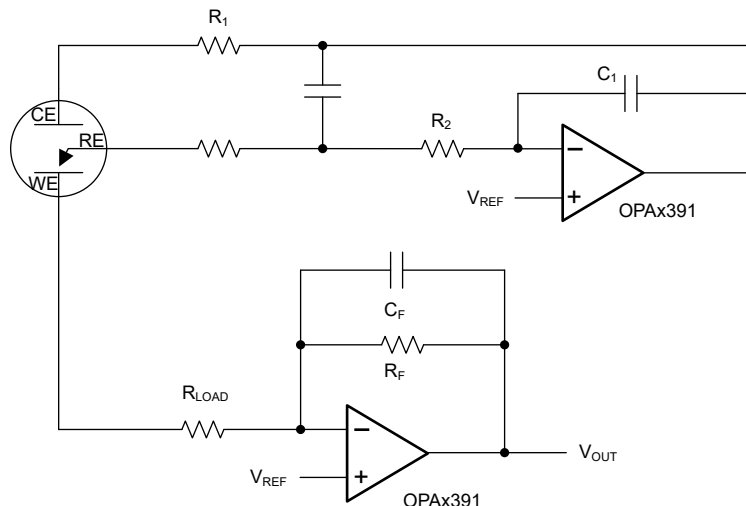

Figure 7-1. Three-Terminal CO Gas Sensor
Figure 7-1 shows a simple micropower potentiostat circuit for use with three-terminal unbiased CO sensors. This same design is applicable to many other type of three-terminal gas sensors or electrochemical cells. The basic sensor has three electrodes: the sense or working electrode (WE), counter electrode (CE), and reference electrode (RE). A current flows between CE and WE proportional to the detected concentration. The RE monitors the potential of the internal reference point. For an unbiased sensor, the WE and RE must be maintained at the same potential by adjusting the bias on CE. Through the potentiostat circuit formed by U1, the servo feedback action maintains the RE pin at a potential set by V_{REF} . R1 maintains stability as a result of the large capacitance of the sensor. C1 and R2 form the potentiostat integrator and set the feedback time constant. U2 forms a transimpedance amplifier (TIA) to convert the resulting sensor current into a proportional voltage. Equation 1 calculates the transimpedance gain, and resulting sensitivity, using R_F :